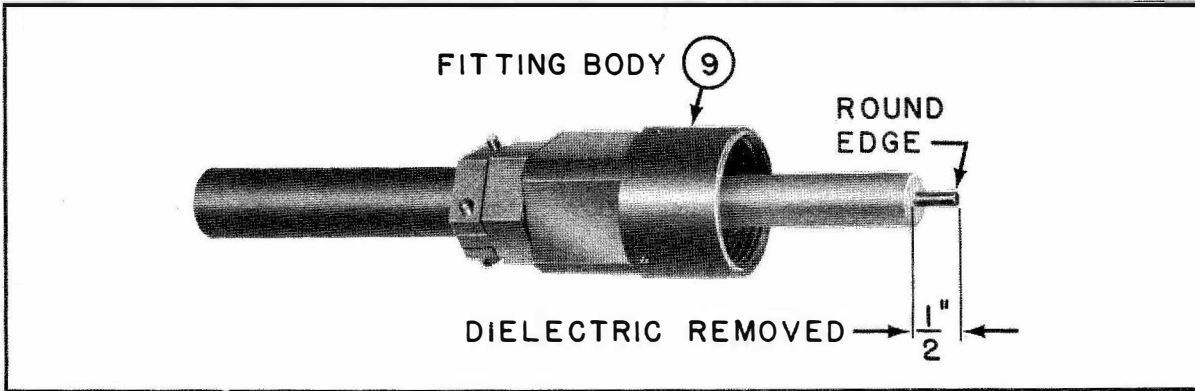

Figure 5-10h. Body Installed and Dielectric Trimmed
Step 7. - Screw fitting body, piece 9, onto the cable seal nut and tighten with a wrench. Tighten the cable clamp screws to hold the cable seal nut in this position. The cable clamps should be tightened so that they make metal-to-metal contact with the tongue of the cable seal nut. Slip the teflon insulator, tapered end first, over the dielectric and hand tighten. Mark the cable dielectric flush with the end of the insulator. Remove the insulator and saw off the dielectric and inner conductor at the mark. Remove 0.5 inch of the dielectric exposing the inner conductor. Round the end of the inner conductor with a file (see figure 5-10h.)